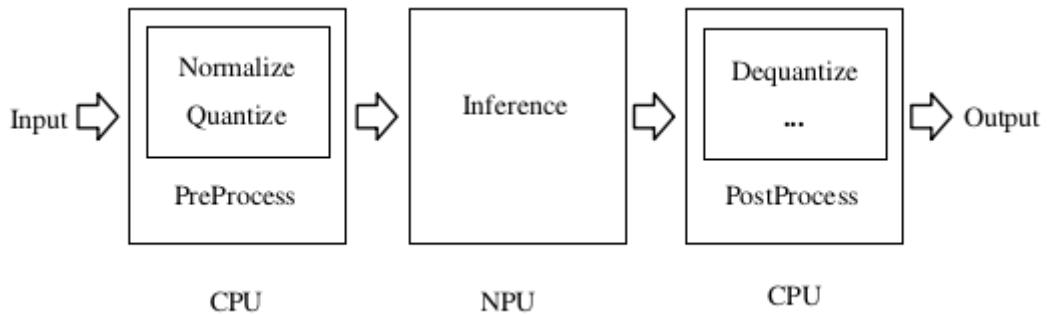

Figure 1-3 Data Processing Flow of the General API
- General API: Provides a simple and straightforward set of inference APIs that are easy to use. The process is shown in Figure 1-3. Data normalization, quantization, data layout format conversion, and dequantization are performed on the CPU, while model inference is executed on the NPU.